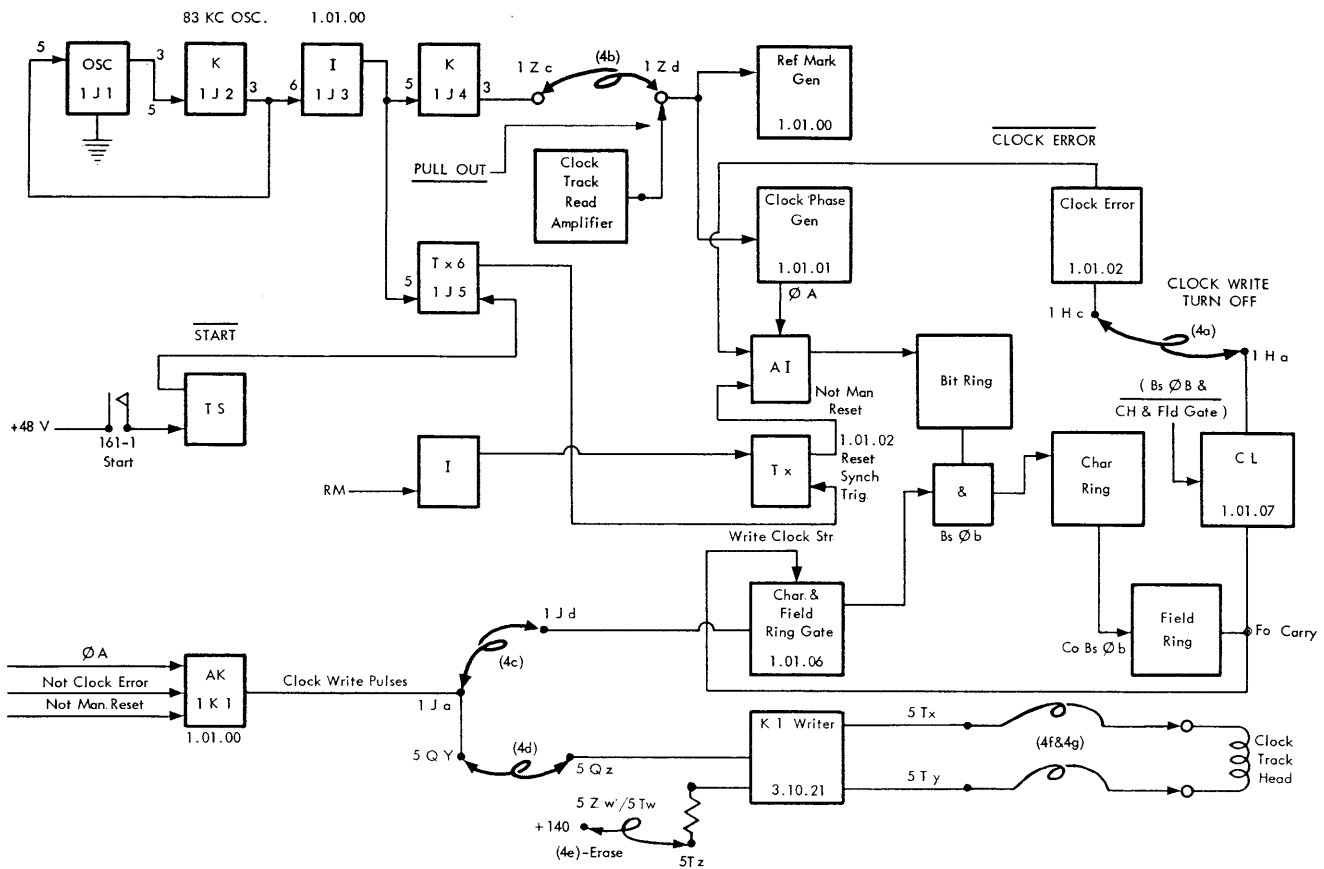

Figure 18. Temporary Wiring and Logic for Writing Clock Track
### Write Clock Track (Figures 18 and 19)
4. Install the following temporary jumpers (See Figure 18):